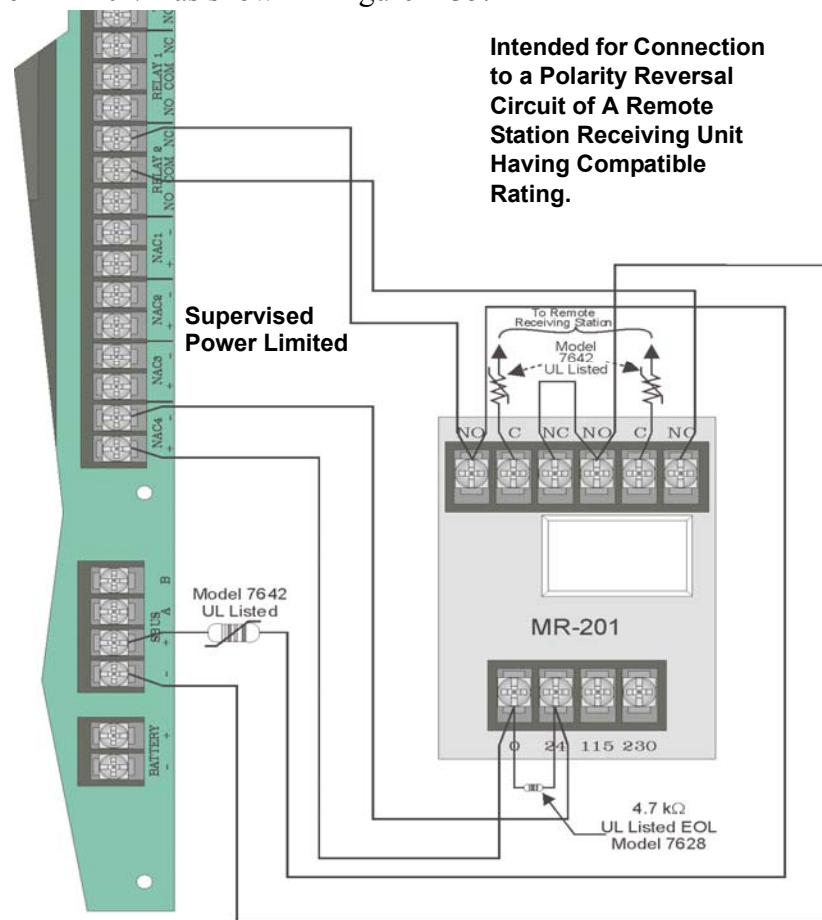

Figure 4-35 Polarity Reversal Connection Using the MR-201/T Relay
1. Wire the MR-201/T as shown in Figure 4-35.